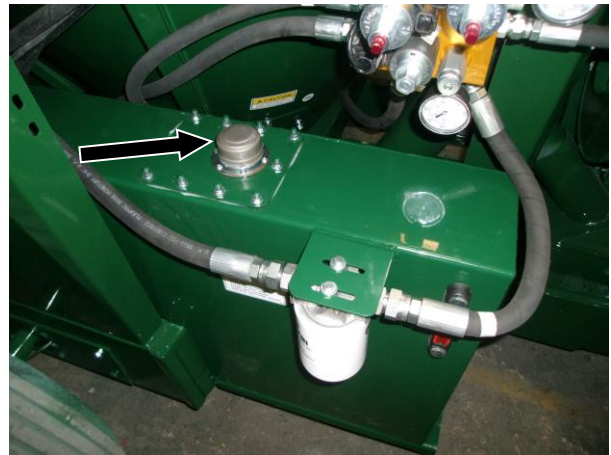

Figure 113 – Hydraulic Reservoir Cap (see Arrow)
When adding hydraulic oil, back blow through the filler cap with low pressure air. If the filler screen is dirty, remove the ten (10) – 5/16" whiz nuts on the access cover and flush screen with solvent and allow too dry before installing. Prior to replacing the access cover, remove the old gasket material from the cover and tank, then replace gasket material using silicone blue (see Figure 113).